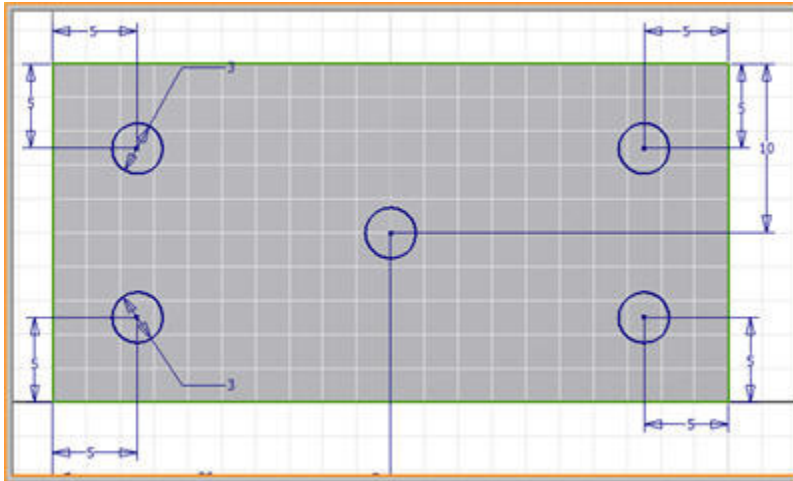

Figure 3: Dimensions
Step 5: Insert five holes (diameter 3mm) using insert hole [H] feature option with dimensions as shown in Figure 3.